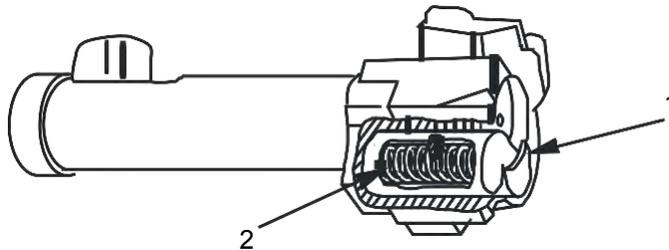

Figure 26. Extractor, Extractor Spring.
1. Check for damaged or broken extractor (Figure 26, Item 1). Extractor should be difficult to remove if assembled. Replace unserviceable parts (WP 0013).
2. Check extractor spring (Figure 26, Item 2) for tension by pushing the extractor (Figure 26, Item 1) toward the outer portion of the bolt. There should be firm tension when pushed. Replace unserviceable parts (WP 0013).